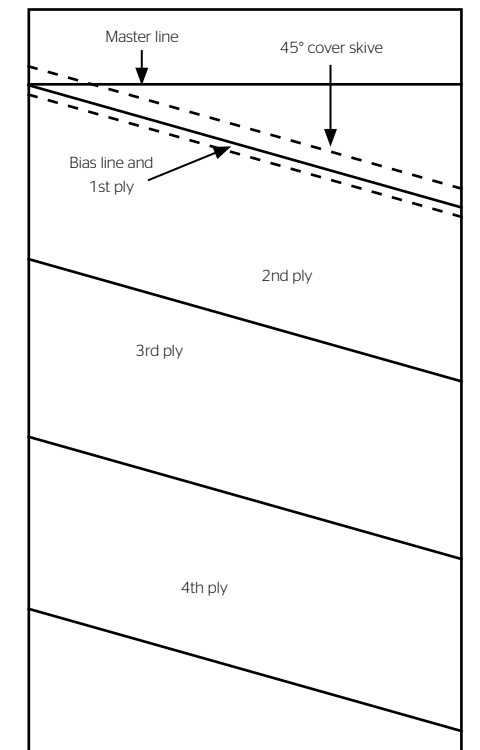

Fig. 5-4: Drawing the bias line
5. Measure off the bias length and draw the bias line to the end of the master line on the opposite edge (Fig. 5-4). This line marks the location of the top ply cut after the cover gum is removed.